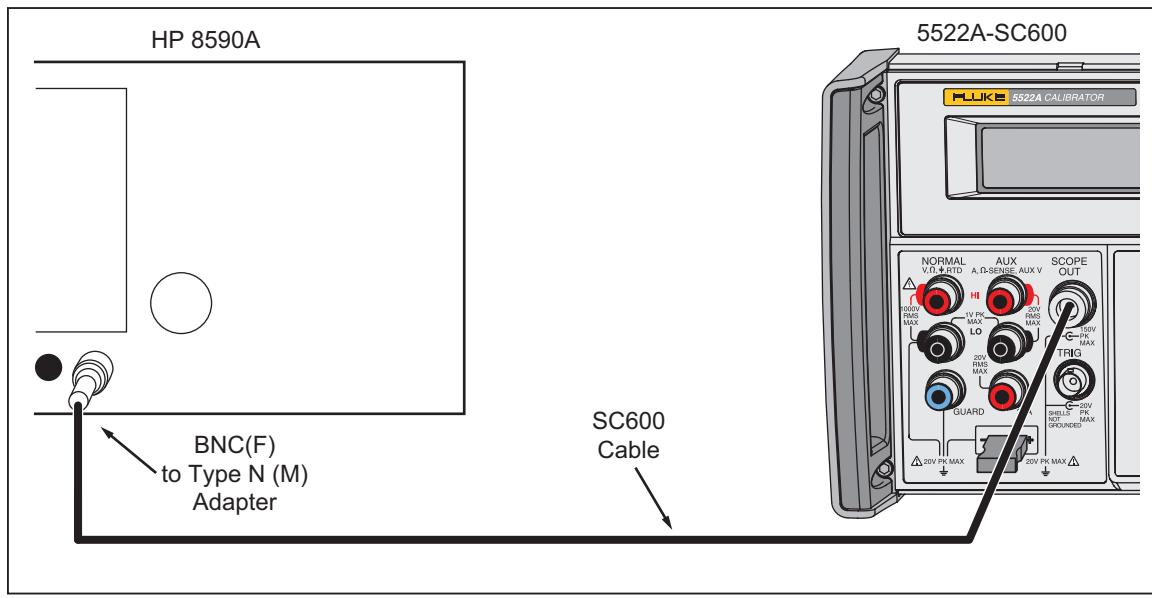

Figure 6-10. Leveled Sine Wave Harmonics Verification Setup
1. Connect the equipment as shown in Figure 6-10.